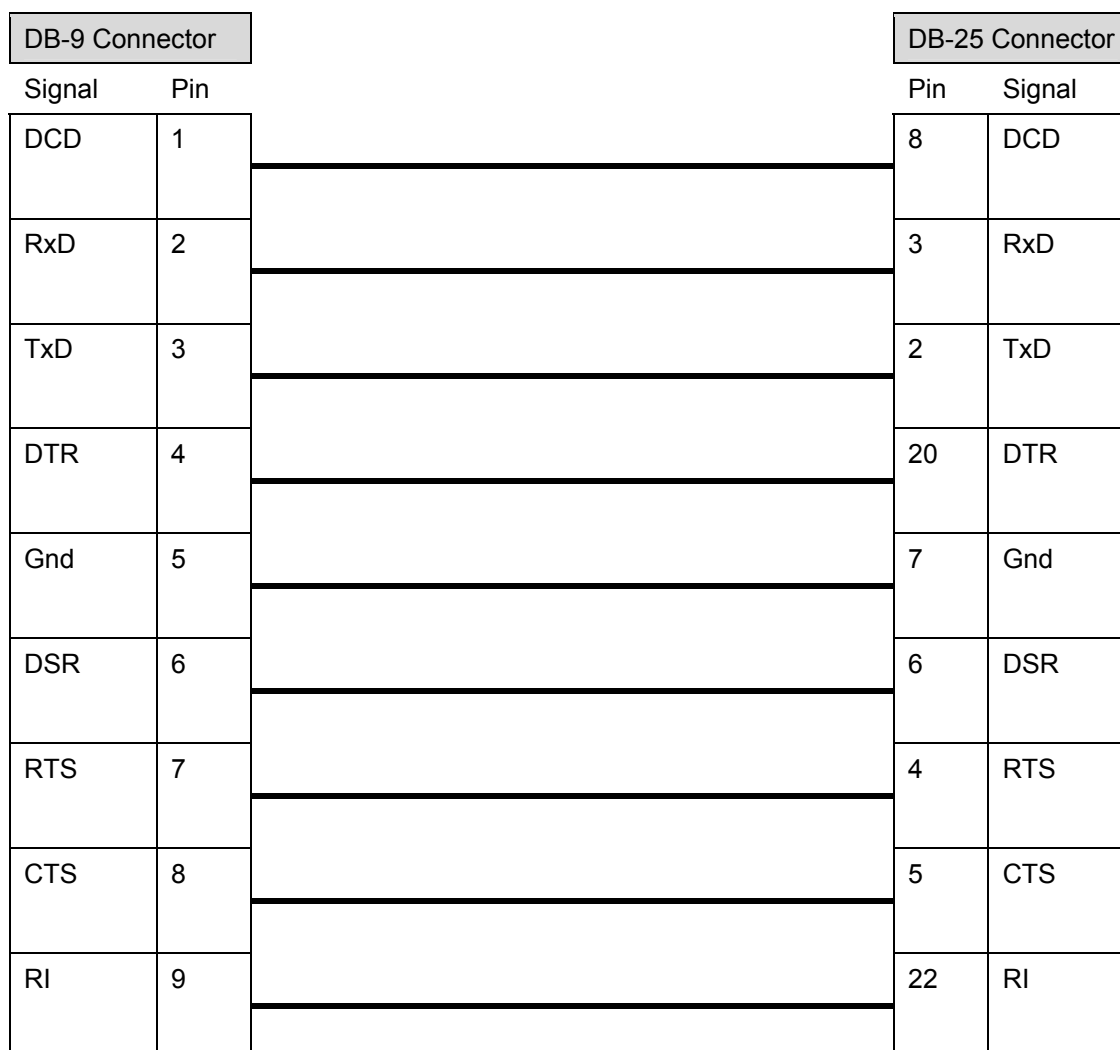

Figure 88: Modem RS-232 Cable Wiring
- Null-modem RS-232 cable (Figure 88).